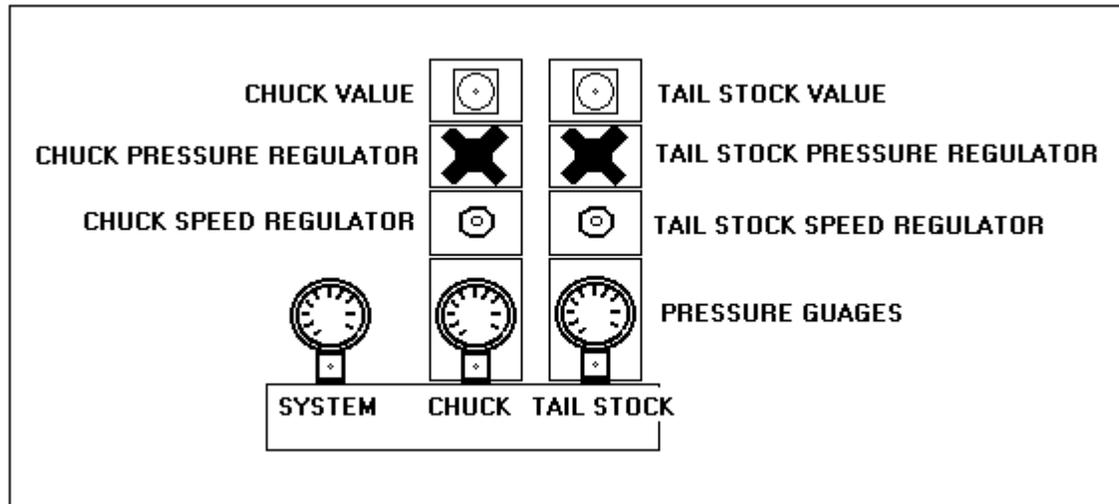

Figure 5-4
- If you have a hydraulic chuck, please see figure 5-4 there will be two pressure gauges on the hydraulic system. One of the gauges is for system pressure and the other gauge will be for chucking pressure. Adjust the pressure until the required gripping force is achieved.
- If you have both a hydraulic chuck and a hydraulic tailstock, there will be three pressure gauges on the hydraulic system. One of the gauges is for system pressure and the other two gauges will be for chucking pressure and tailstock pressure. Please see (figure 5-4). Adjust the pressure until the required push force is achieved.